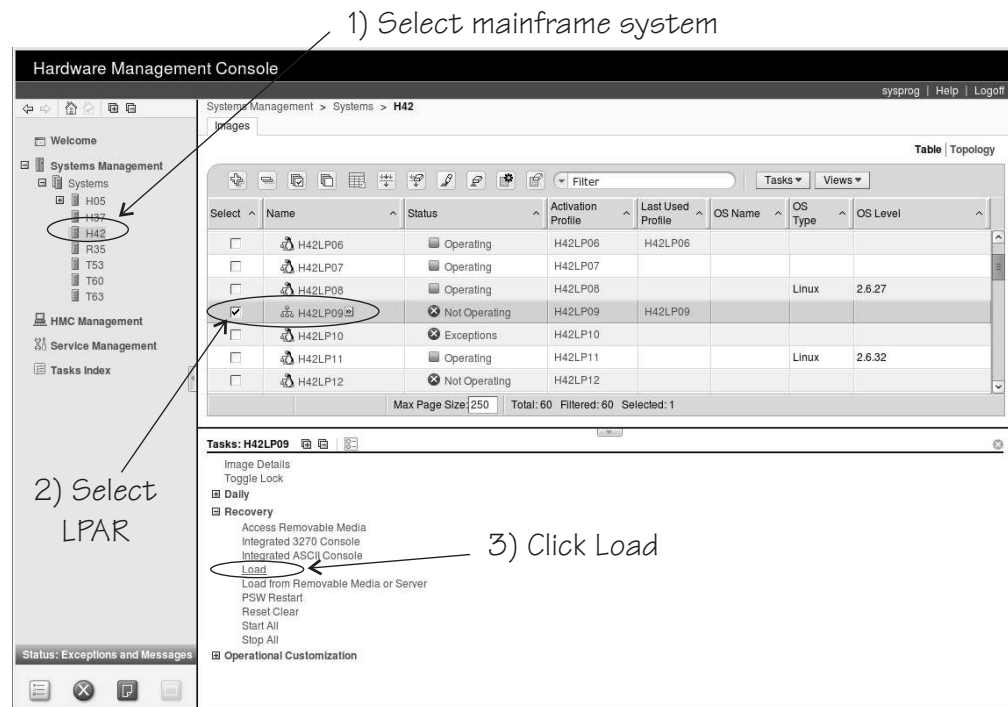

Figure 25. Load task on the HMC
3. In the **Tasks** area, expand **Recovery** and click **Load** (see Figure 25 on page 93).